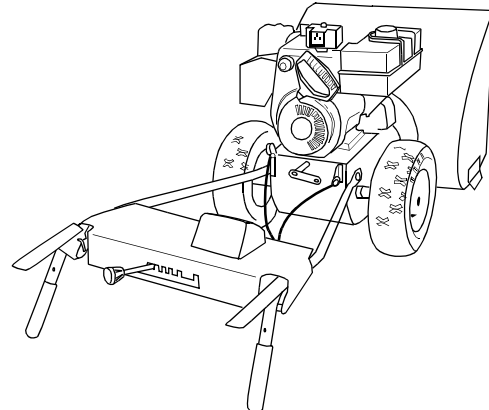

Figure 8
- Hold the handle assembly up to the bottom of the snow thrower frame and thread the hex bolt into the lower hole in snow thrower frame. Do not tighten at this time. See Figure 8.